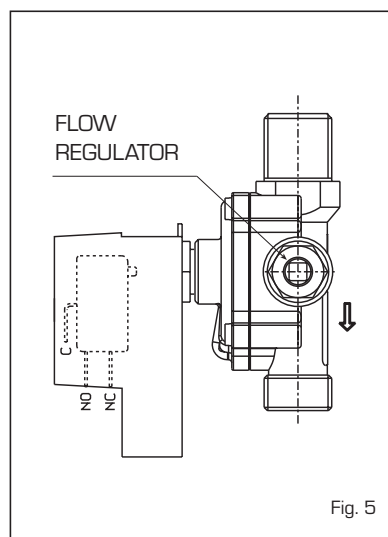

Fig. 5
2.2.2 D.H.W. production on "DUETTO 25-35" version (fig. 5)
To adjust water flow use the water pressure gauge flow regulator (fig. 5):